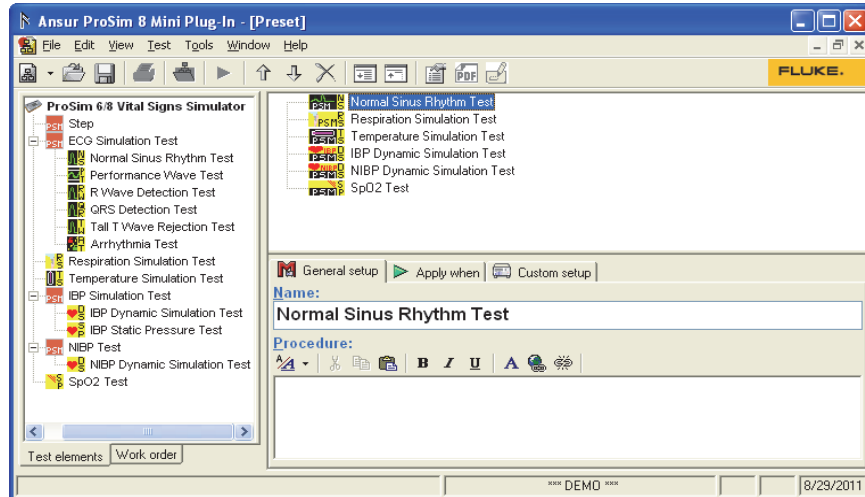

Figure 5-21. Asystole Preset
2. Drag and drop test elements as shown in Figure 5-21.